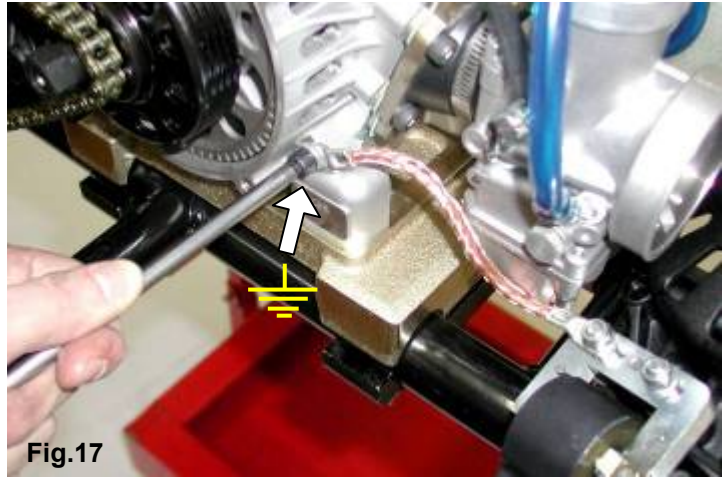

Fig.17
2.8.1 CONNECT THE H.T. COIL GROUND CABLE TO THE CRANKCASE BY MEANS OF THE M6 SCREW ON THE FRONT FOOT (SEE FIG.17).